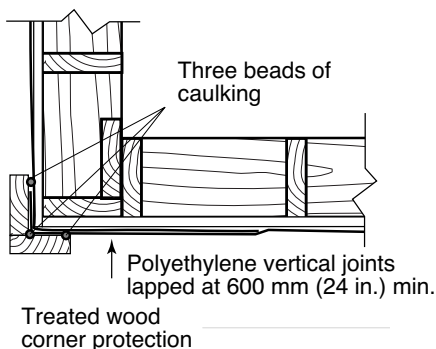

FIGURE 63B
- protect lapped polyethylene at exterior corners with corner boards (see Figure 63b).